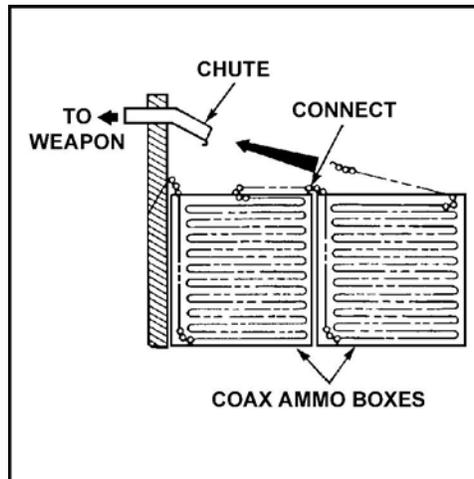

Figure 4. Load second and third sections.
- c. Continue loading 100-round belts into the ammunition box by linking new belts to the loaded belt, snapping the single link to the last cartridge of the new belt. As other ammunition boxes are opened and 100-round belts are taken out, inspect rounds and links for misalignment or damage. Again, realign if necessary, and DO NOT load unserviceable ammunition. Continue to load until the first section of the ammunition box is full, then the second section (Figure 4).
- a. Feed the ammunition belt into the chute from the ammunition box, with the cartridges pointing away from the loader and the single link leading (Figure 4).